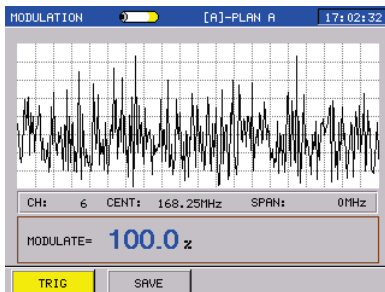

Figure 3-9-2
**HOLD(F1):** After pressing HOLD soft key, waveform scanning will be paused, and **F1** is changed to TRIG, press it to cancel current pause as Figure 3-9-2.